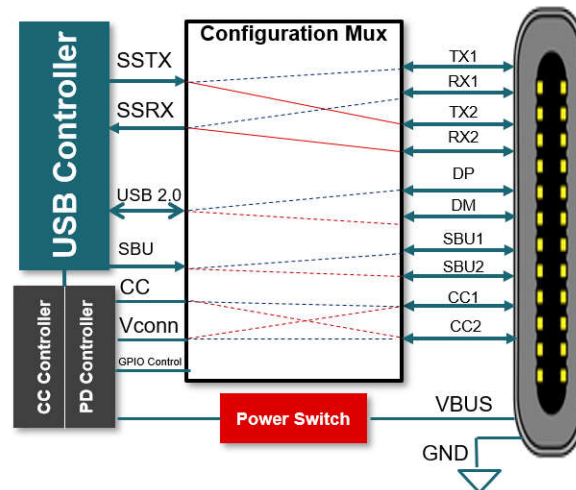

Figure 23. USB configuration multiplexer
In the device, detecting which CC pin the host will terminate at the receptacle enables the device to control the functional multiplexer that routes its SuperSpeed USB signal pairs. **Figure 23** shows how the routing of the SuperSpeed transmit (TX) and receive (RX) signal pairs correspond to the USB SuperSpeed signal pairs (SSTXp1/SSTXn1 and SSRXp1/SSRXn1).